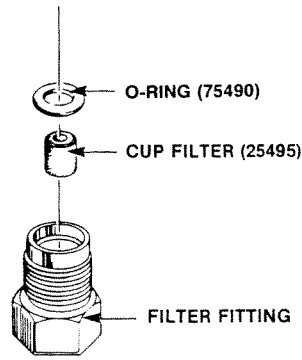

FIGURE 4-6 FILTER FITTING ASSEMBLY
4. Remove the filter fitting (Figure 4-6) with a 7/16" wrench.
7. Place the new filter into the filter fitting, open end showing (Figure 4-6). The opening of the cup filter must face up to utilize the full surface area of the filter. Be sure the filter is seated into the fitting.
9. Place the new filter into the filter fitting, open end showing (Figure 4-6). Be sure the filter is seated into the fitting.